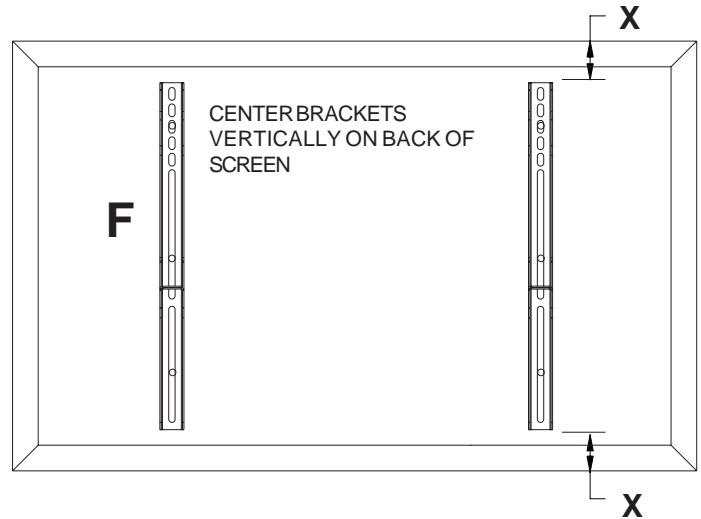
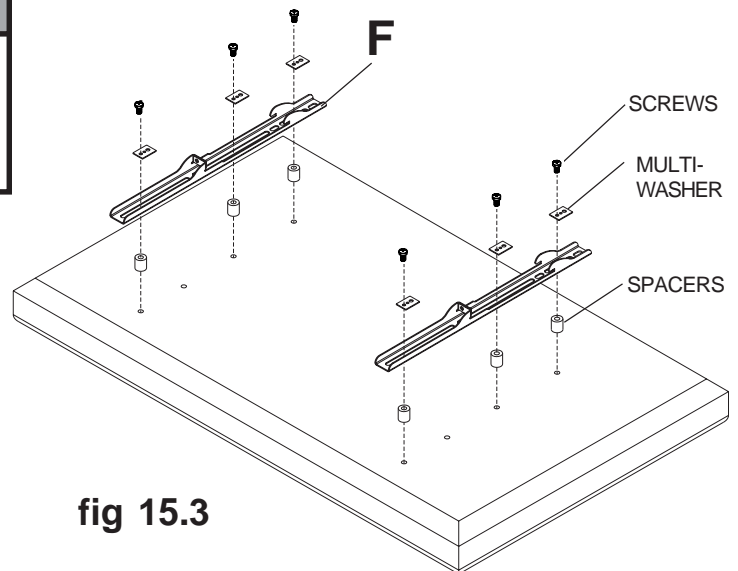

fig 15.1
fig 15.3
- 15** To prevent scratching the screen, set a cloth on a flat, level surface that will support the weight of the screen. Place screen face side down. If screen has knobs on the back, remove them to allow the adapter brackets to be attached. Place adapter brackets (**F**) on back of screen, align to holes, and center on back of screen as shown in figure 15.1. Attach the adapter brackets to the back of the screen using the appropriate combination of screws, multi-washers, and spacers as shown in figure 15.3.